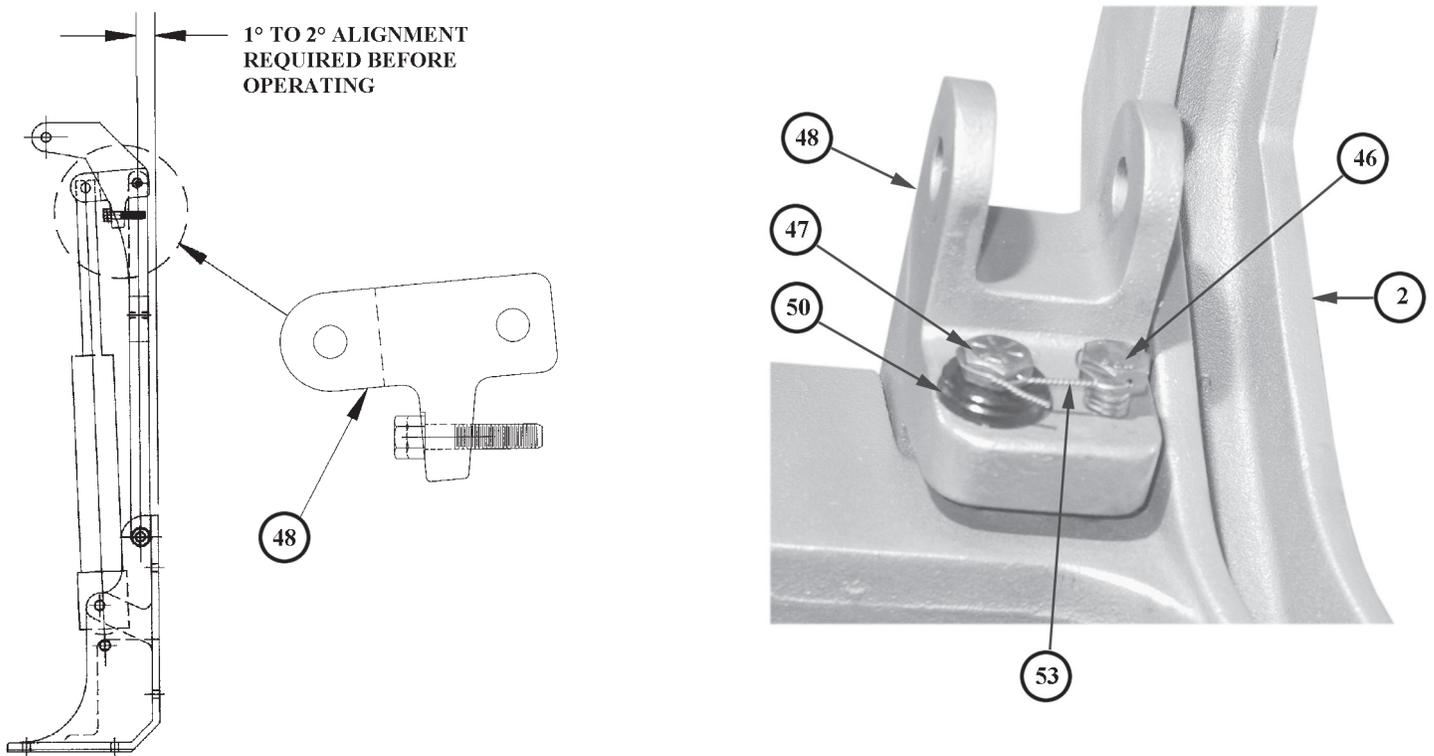

FIGURE 1
21. Once proper adjustment is achieved, replace the safety wire (provided with new actuator) as shown in Figure 1. Then lower the unit and reattach the channel support with the appropriate hardware.